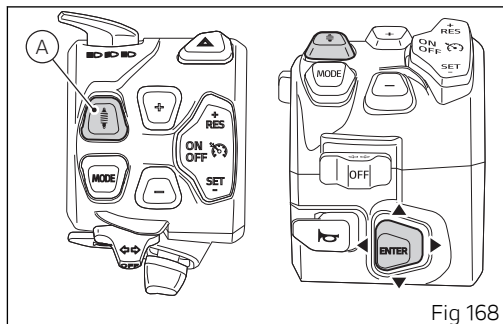

Fig 168
- Press button (A, Fig 168) to activate the specific menu.